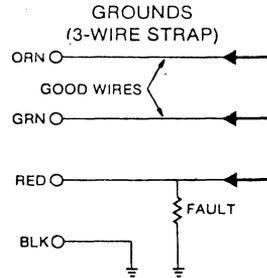

FIGURE 5
2.06 Hookup and Strapping for Grounds (3-wire strap) - For grounded conductor faults when two wires are available, connect the test cord clips as shown in Figure 5. Place a **solid strap** across the two good wires and the faulted wire at far-end of cable.